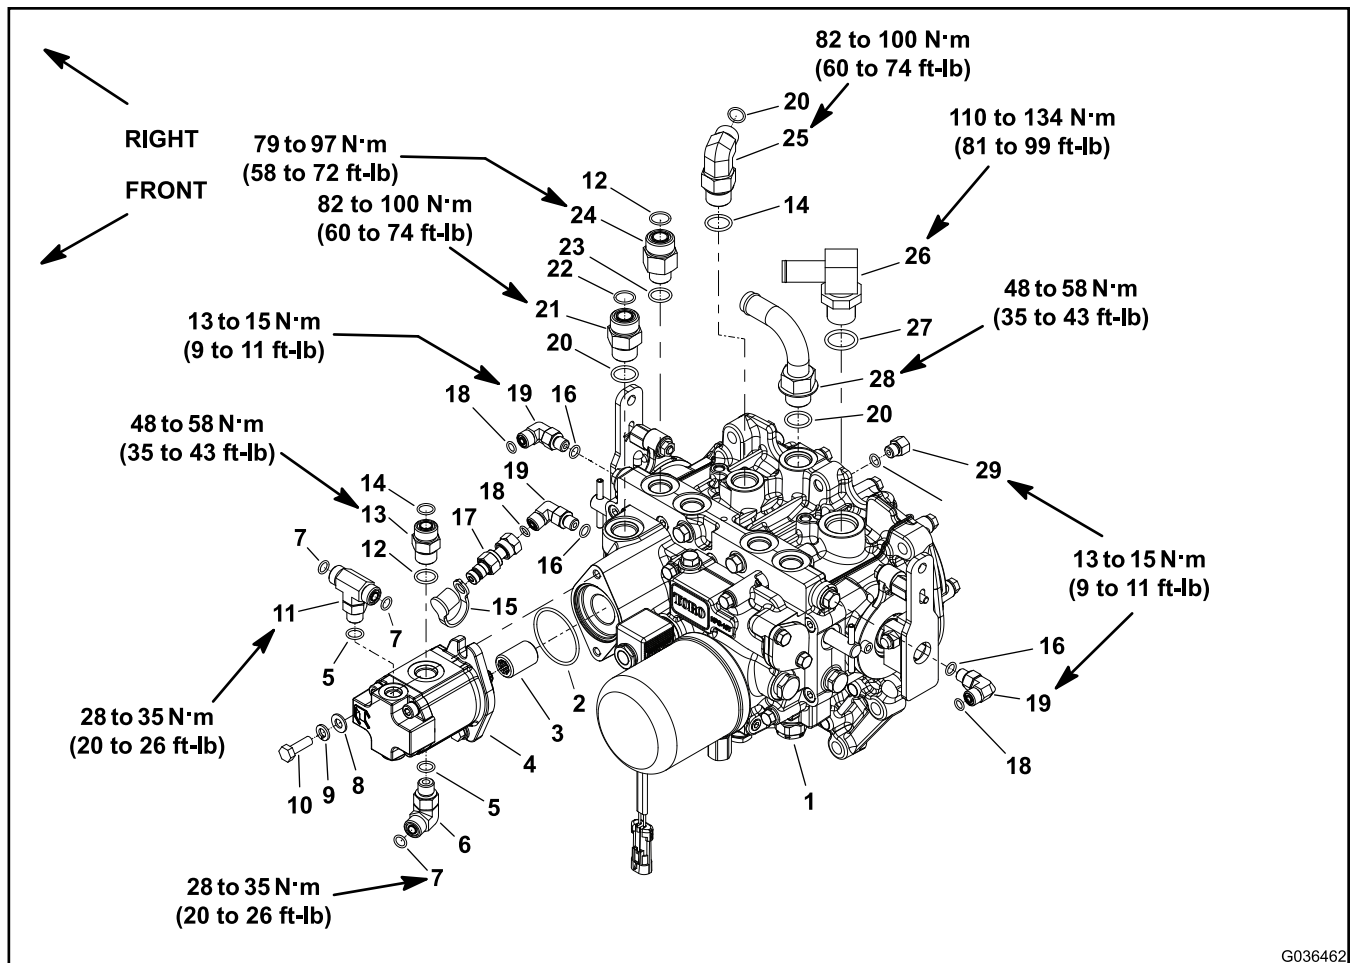

Figure 76
16. If the hydraulic fittings are to be removed from the transmission, mark the fitting orientation for assembly purposes. Remove the fittings from the transmission (Figure 76) and discard the O-rings from the fittings.
ports; refer to Installing the Hydraulic Fittings \(SAE Straight Thread O-Ring Fitting into the Component Port\) (page 4–9). Tighten the fittings to the torque values identified in Figure 76.